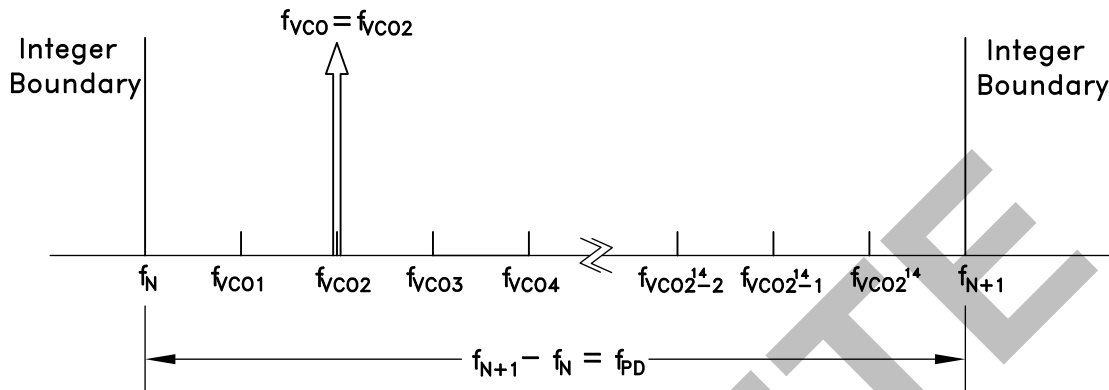

Figure 71. Exact Frequency Tuning
and f_{VCOk} are the channel step frequencies where $0 < k < 2^{24}-1$, As shown in Figure 71.
Some fractional PLLs are able to achieve this by adjusting (shortening) the length of the Phase Accumulator (the denominator or the modulus of the Delta-Sigma modulator) so that the Delta-Sigma modulator phase accumulator repeats at an exact period related to the interval frequency ($f_{VCOk} - f_{VCO(k-1)}$) in Figure 71. Consequently, the shortened accumulator results in more frequent repeating patterns and as a result often leads to spurious emissions at multiples of the repeating pattern period, or at harmonic frequencies of $f_{VCOk} - f_{VCO(k-1)}$. For example, in some applications, these intervals might represent the spacing between radio channels, and the spurious would occur at multiples of the channel spacing.
If it is desirable to have multiple, equally spaced, exact frequency channels that fall within the same interval (ie. $f_N \leq f_{VCOk} < f_{N+1}$) where f_{VCOk} is shown in Figure 71 and $1 \leq k \leq 2^{24}$, it is possible to maintain the same integer-N (Reg 03h) and exact frequency register (Reg 0Ch) settings and only update the fractional register (Reg 04h) setting. The Exact Frequency Channel Mode is possible if (EQ 16) is satisfied for at least two equally spaced adjacent frequency channels, i.e. the channel step size.
To configure the HMC1190LP6GE for Exact Frequency Channel Mode, initially and only at the beginning, integer (Reg 03h) and exact frequency (Reg 0Ch) registers need to be programmed for the smallest f_{VCO} frequency (f_{VCO1} in Figure 71), as follows:
1. Calculate and program the integer register setting Reg 03h = $N_{INT} = \text{floor}(f_{VCO1}/f_{PD})$, where f_{VCO1} is shown in Figure 71 and corresponds to minimum channel VCO frequency. Then the lower integer boundary frequency is given by $f_N = N_{INT} \cdot f_{PD}$.
$\text{Reg04h} = N_{FRAC} = \text{ceil}\left(\frac{2^{24} \cdot (f_{VCOk} - f_N)}{f_{PD}}\right)$ where $f_N = \text{floor}(f_{VCO1}/f_{PD})$, and f_{VCO1} , as shown in Figure 71, represents the smallest channel VCO frequency that is greater than f_N .
4. To change from channel 1 ($f_{VCO1} = 2800.2 \text{ MHz}$) to channel 2 ($f_{VCO2} = 2800.3 \text{ MHz}$), only **Reg 04h** needs to be programmed, as long as all of the desired exact frequencies f_{VCOk} (Figure 71) fall between the same integer-N boundaries ($f_N < f_{VCOk} < f_{N+1}$). In that case